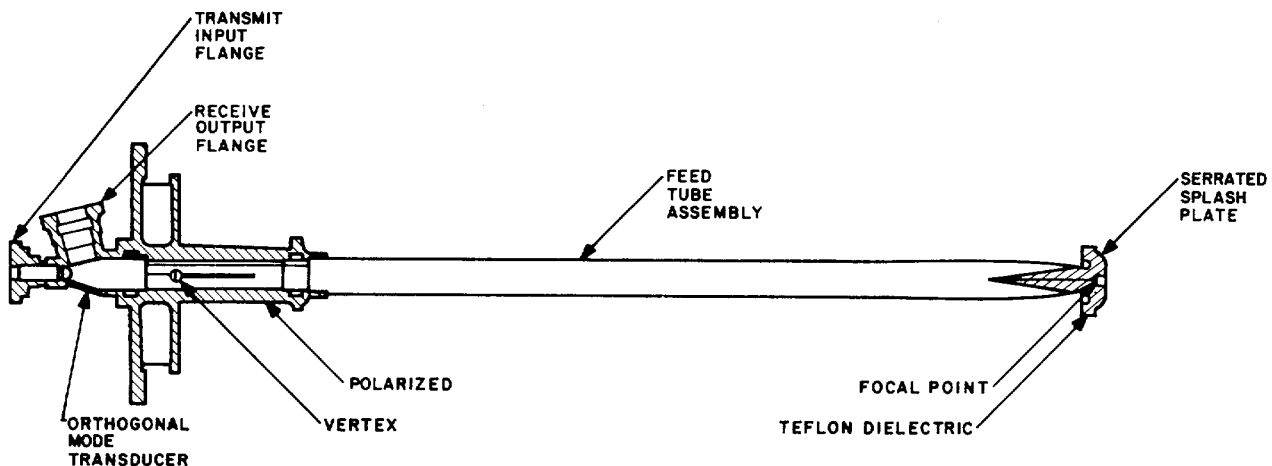

Figure 6-14. Antenna Feed Cross Section.
(2) Figure 6-14 is a cross section view of the antenna feed. The antenna feed is composed of three components, an orthogonal mode transducer (OMT), a circular polarizer and a feed tube assembly. The antenna feed passes through the center of an eight-foot parabolic reflector with the front end of the feed tube at the focal point of the reflector. The orthogonal mode transducer is a three-port device consisting of a transmit port, a receive port, and a common port. Energy can pass into the transmit port through the OMT and out of the common port. Energy can also pass into the common port through the OMT to the receive port. The transmit port is isolated from the receive port; that is, energy going into one will not pass on to the other. Signals at these ports will not mix with each other because the transmit and receive ports are orthogonal (at 90 degrees) to each other. Isolation, between the transmit and receive ports is in excess of 40 dB.